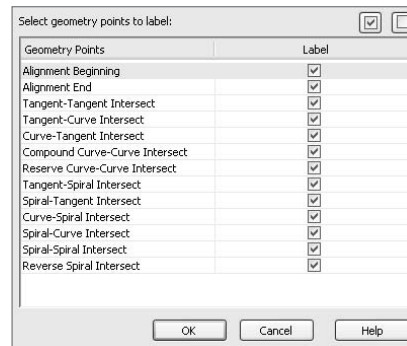

Figure 8.14
8. Select EE Perp with Line from the Geometry Point Label Style drop-down list, and then click Add>> one more time. This time, the Geometry Points dialog in Figure 8.14 will appear.